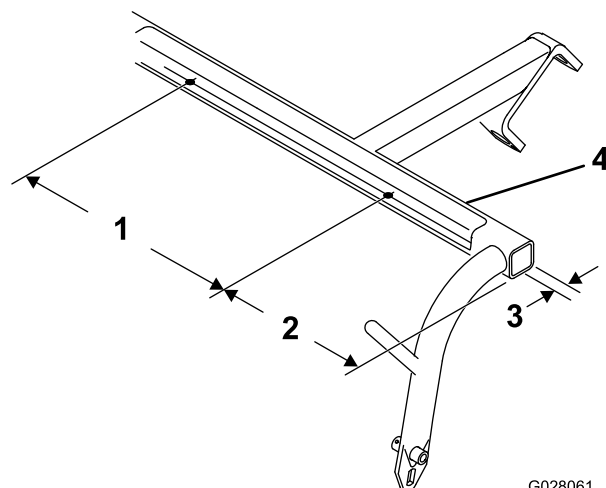

Figure 1
1. Using the dimensions shown in Figure 1, drill 2 holes with a diameter of 5.6 mm (0.221 inch) on the underside of each pull frame cross tube.